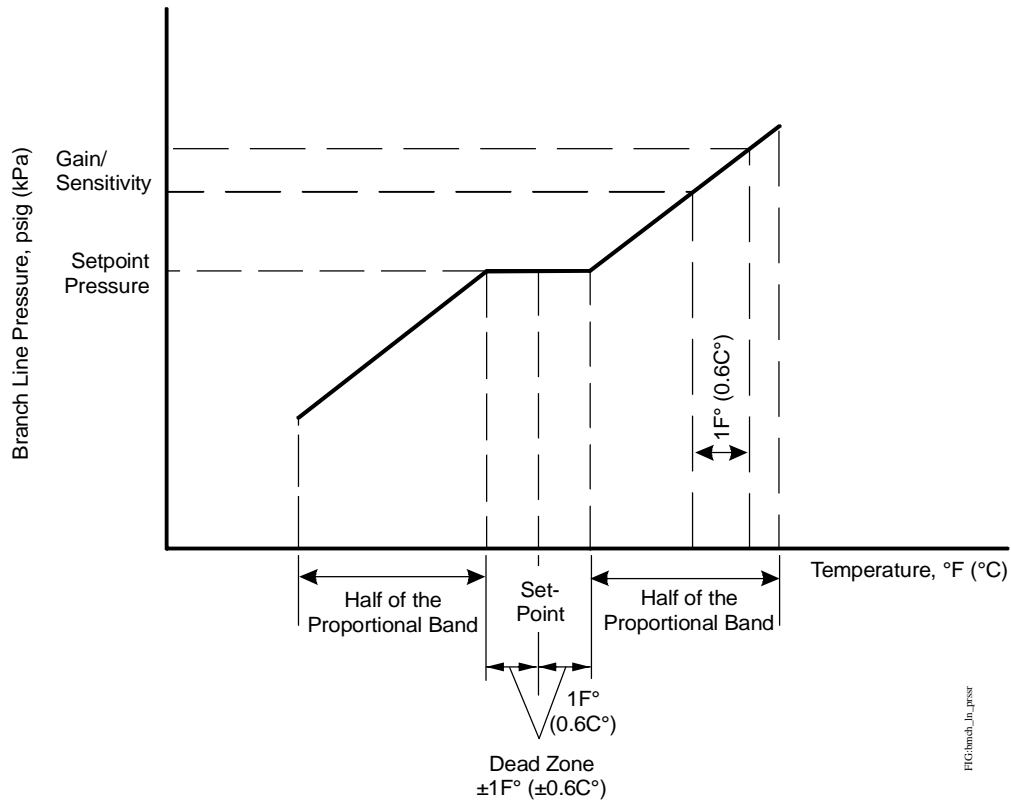

Figure 15: Branch Line Pressure vs. Room Temperature
Figure 15 illustrates the linear relationship between branch line pressure and room temperature, at a given setpoint for a Direct Acting (DA) room thermostat configuration. For a Reverse Acting (RA) room thermostat configuration, the graph is inverted horizontally.